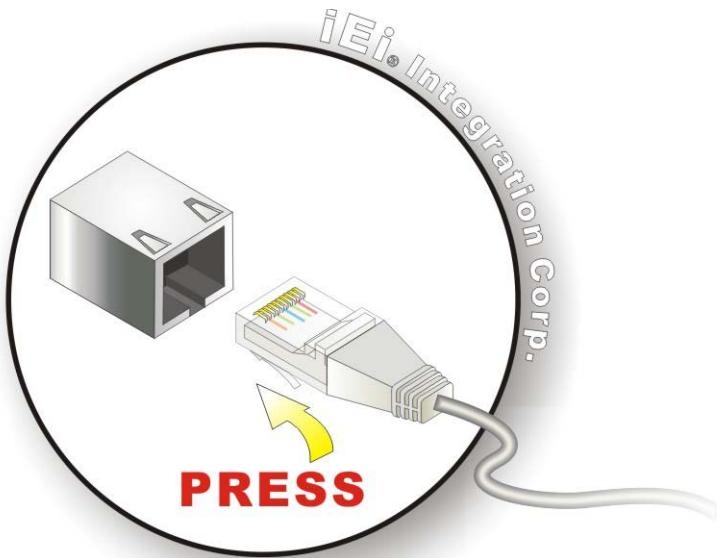

Figure 4-10: LAN Connection
Step 2: Align the connector. Align the RJ-45 connector on the LAN cable with the RJ-45 connectors on the NANO-SE-i1. See **Figure 4-10**.